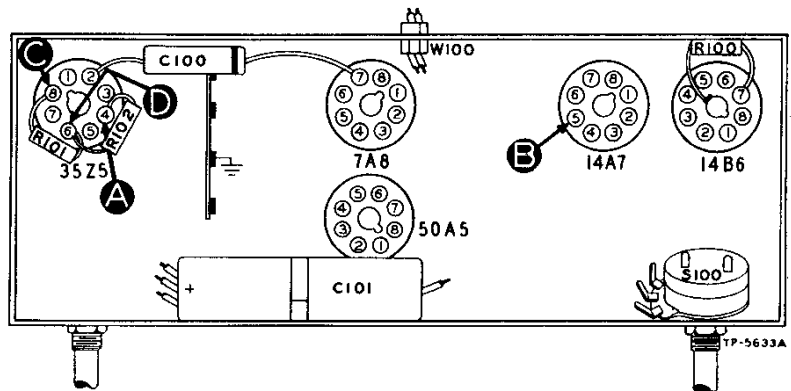

FIGURE 1. BOTTOM VIEW, SHOWING SECTION 1 TEST POINTS
2. Measure the resistance between B+ and B- (test points C and B in figure 1), using the ohmmeter polarity giving the highest resistance reading; if the reading is lower than 50,000 ohms, check C101A, C101B, and C101C, for leakage or shorts. This resistance value, which is much lower than normal, does not represent a quality check of these condensers; it is the lowest value which will permit the rectifier to operate safely while the voltage tests of Section 1 (power supply) are performed.